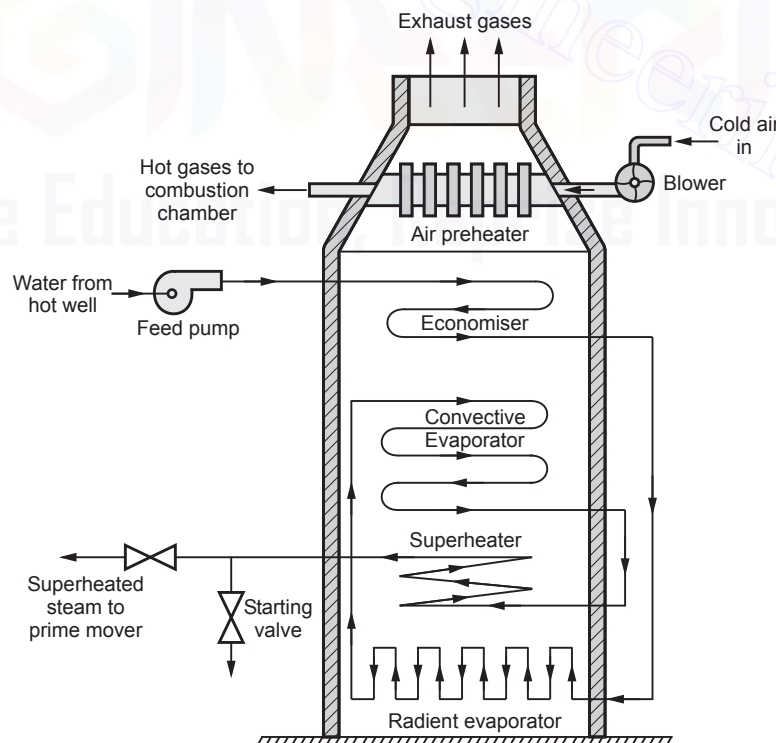

Fig. 2.7 : Benson boiler
- The arrangement of Benson boiler is shown in Fig. 2.7.